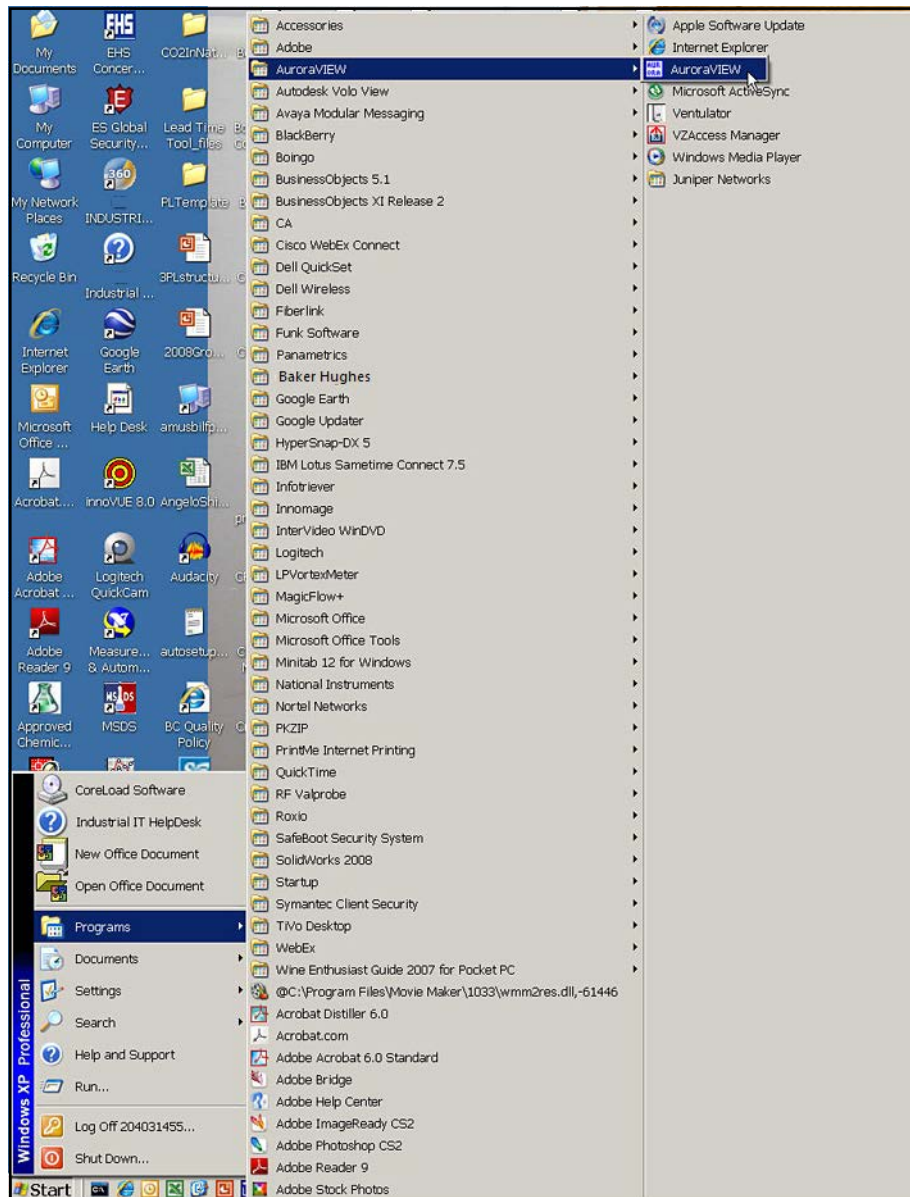

Figure 28: *AuroraView* in Programs Menu
1. From the Start menu, click Programs → AuroraView → AuroraView (see Figure 28 below).